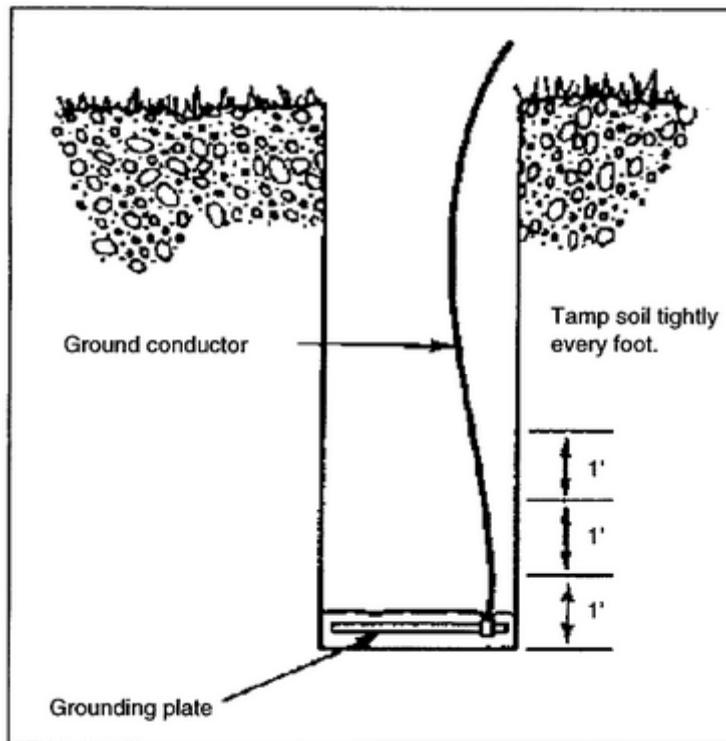

Figure 1-21. Buried grounding plate
d. Grounding plates are buried 8 feet deep, and the hole is refilled in stages (Figure 1-21).
11.	A. 1 (page 1-12, Figure 1-21)